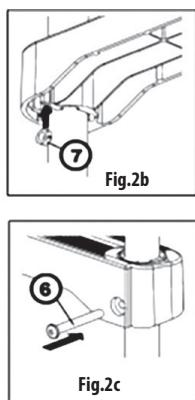
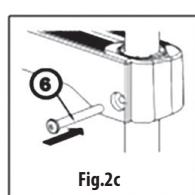

Fig.2b
Fig.2c
Slide the treads along stiles so that the holes for screws fit well with the holes in stiles. Put the nut (7) (**Fig. 2b**) into the groove made in tread lower surface and fix the tread with screws (6) (**Fig. 2c**).